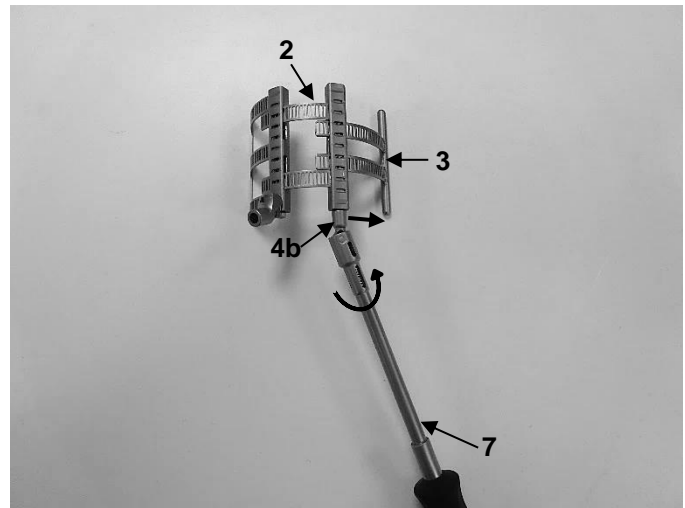

Fig. 20
1. First remove the secondary element (3) from the primary element (2) using the appropriate screwdriver (7). To do this, turn the transport mechanism on the box module of the primary element (4b) clockwise using the suitable screwdriver (7) until it can be removed (Fig. 20).